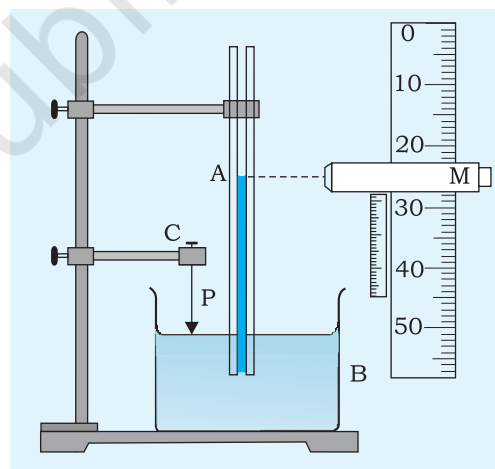

Fig.E 12.1: Rise of liquid in a capillary tube
When a liquid rises in a capillary tube [Fig. E 12.1], the weight of the column of the liquid of density ρ below the meniscus, is supported by the upward force of surface tension acting around the circumference of the points of contact. Therefore
5. Push a pin P through a cork C, and fix it on another clamp such that the tip of the pin is just above the water surface as shown in Fig. E 12.1. Ensure that the pin does not touch the capillary tube. Slowly lower the pin till its tip just touches the water surface. This can be done by coinciding the tip of the pin with its image in water.